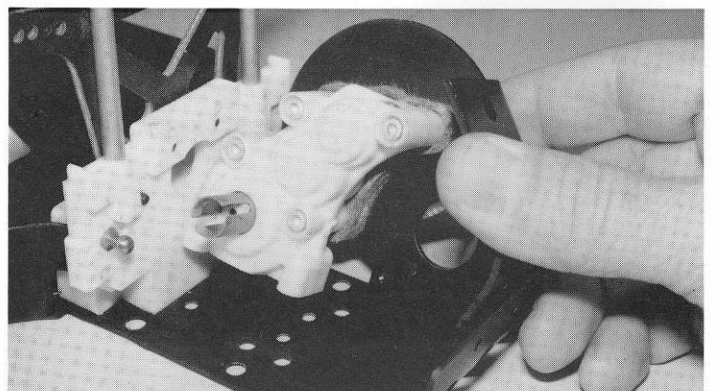

**Fig. 83**
□ **Figs. 83 & 84** In bag #6-4 you will find the #6377 graphite rear shock strut and four #6932 4-40 x 5/16" SHCScrews. Mount the rear shock strut to the front of the rear bulkhead using the four screws, as shown in fig. 84.